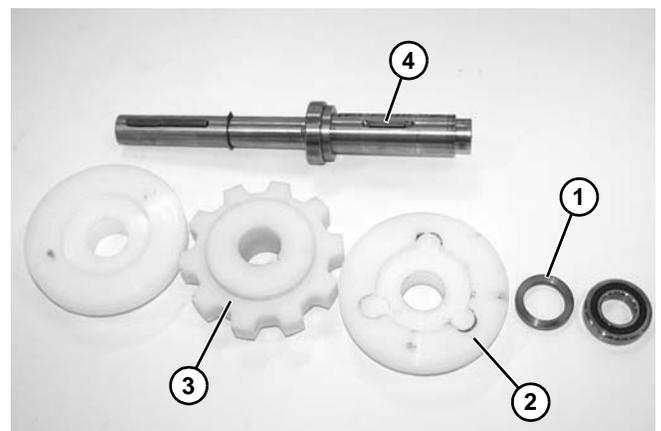

Figure 57
11. Remove spacer (Figure 57, item 1), support wheel (Figure 57, item 2), sprocket (Figure 57, item 3), and shaft key (Figure 57, item 4) from spindle shaft.